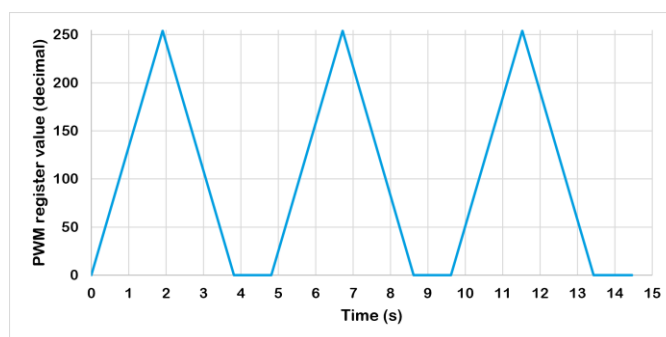

Fig. 2-2. Output of Engine 1 in examples 1 and 2
In this example, LED0 PWM value is ramped from 0 to 254 and back to zero three times with about a one second pause after each LED pulse. The timing chart is shown in Fig. 2-2. In this and all remaining examples, the contents of the LED\_MAP register at address F0h is 39h, corresponding to LED0 (B) controlled by Engine 1, LED1 (G) controlled by Engine 2, LED2 (R) controlled by Engine 3, and LED3 (W) directly controlled I2C writes to its PWM register. Furthermore, the pseudocode Ramp and Wait are really the same Ramp/Wait instruction but with non-zero versus zero value for Increment Count. Refer to Table 2-2.
The first two instructions ramp the PWM register value from 0 to 254. This requires two consecutive instructions because the Ramp instruction Increment Count field is 7 bits wide, thus its maximum value is 127. The next two instructions ramp the PWM register value back down from 254 to 0 by setting the Sign bit. The Wait 50 instruction step time is  $0.5 \text{ ms} \cdot 50 = 25 \text{ ms}$  (see Table 2-3), and we note that it does not increment the PWM register value because its Increment Count field is zero. Instruction 6 (at PC = 5) loops to PC = 4, Wait 50 instruction, 40 times, resulting in a 1 second delay. Instruction 7 (at PC = 6) loops twice to the beginning of the program, causing 3 total LED pulses, as in Fig. 2-2. The End instruction ensures that the final PWM register value is zero because the Reset bit is set.
The code in Table 2-6 results in the same output as that in Table 2-5, and the timing chart in Fig. 2-2. Again, the instruction count reduces due to ENG1\_STEP\_SIZE being set in the CONFIG register, and Pre-scale (bit 14, the 32x clock divider) being set in the third instruction at PC = 2.